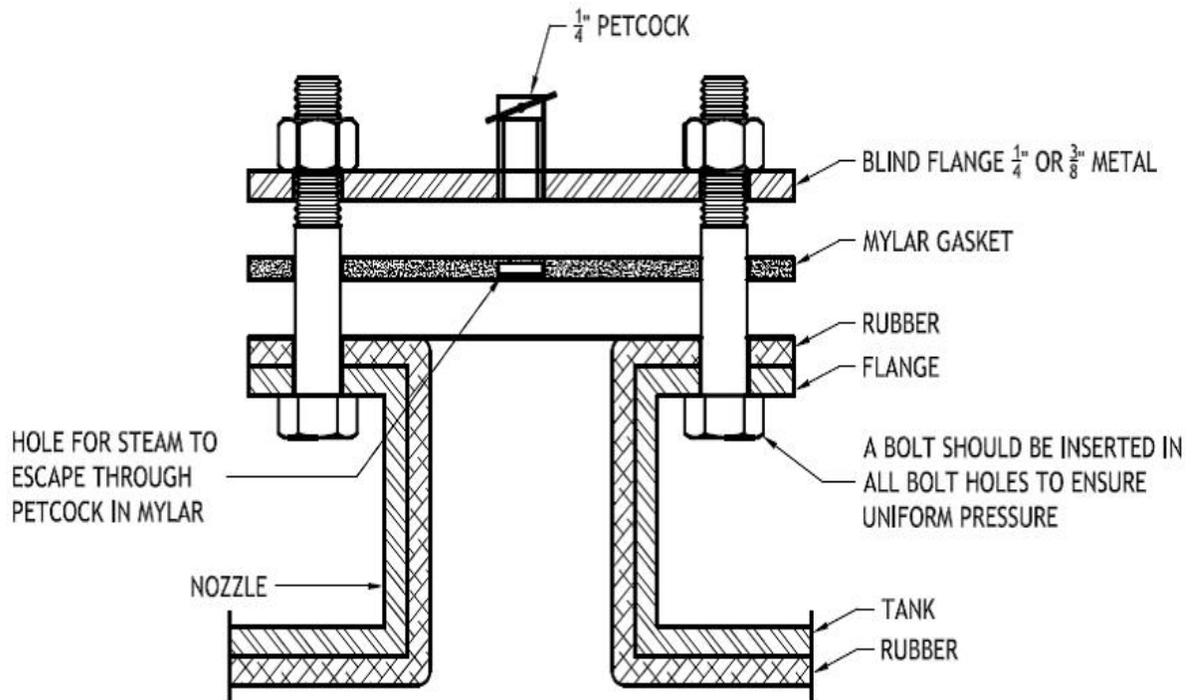

Fig. 10-6 Internal pressure steam cure – Flange assembly
- Prior to introducing steam into the vessel, all outlets should be blanked off with a blind flange equipped with a petcock so as to insure the release of steam thereby guaranteeing the nozzle and flange are properly cured (see Fig. 10-6 for detailed assembly).